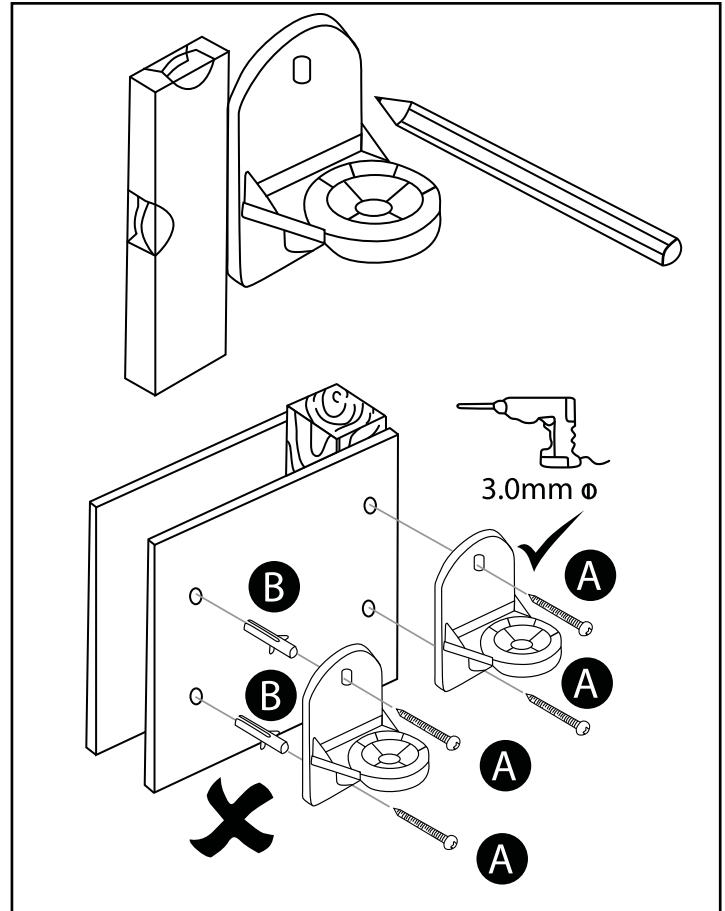

Figure 5
A. Installing in Drywall (Timber Frame) (See Figure 5).
1. Locate centre of timber stud using a stud finder (Caution- the timber stud must be used do not try any other method as shown in figure 5 as these will not hold the Speaker up and Crest is not responsible for any damage that may be caused by incorrect installation).
4. Attach the wall plate using long screws (A) 1 1/2" No.B Woodscrew. Do not over tighten.